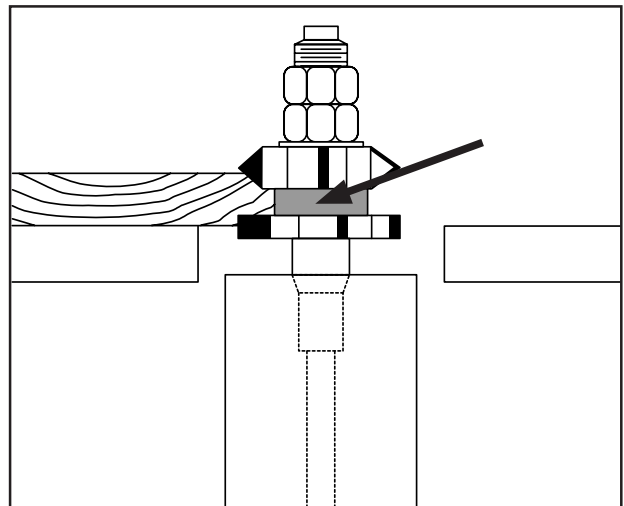

Figure 37. Rub collar between two cutters.
3. **Between two cutters:** Using a rub collar between two cutters, as in **Figure 37**, has the distinct advantage of performing two cuts at once or eliminating the need to change cutters for two different operations. Notice that part of the edge is left uncut. The uncut portion rides on the rub collar.